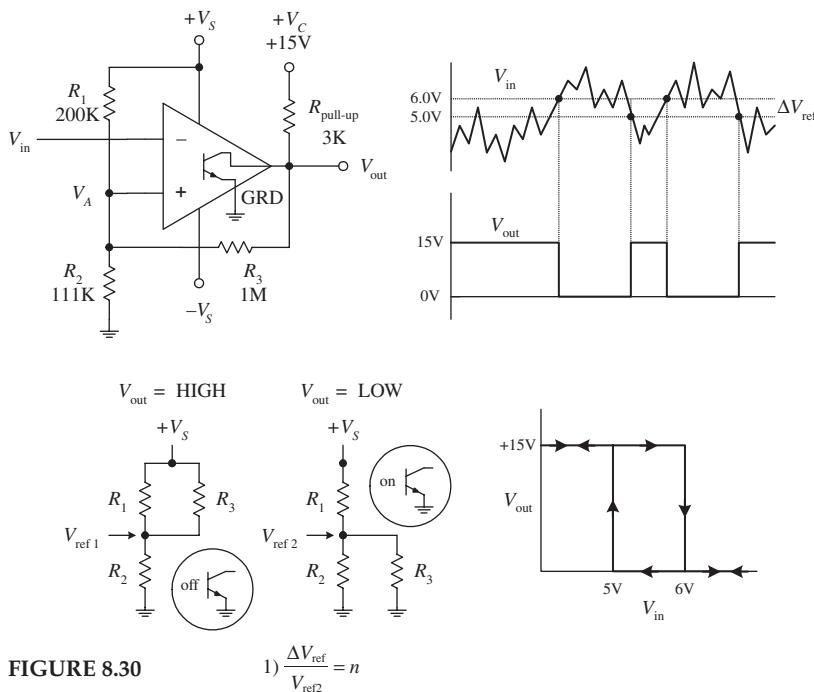

FIGURE 8.30
In the inverting comparator circuit shown in Fig. 8.30, positive feedback through  $R_3$  provides the comparator with two threshold voltages or triggering points. The two threshold voltages result from the fact that the reference voltage applied to the noninverting terminal is different when  $V_{out}$  is high (+15 V) and when  $V_{out}$  is low (0 V)—a result of feedback current. Let's call the reference voltage when the output is high  $V_{ref1}$ , and call the reference voltage when  $V_{out}$  is low  $V_{ref2}$ . Now let's assume that the output is high (transistor is off) and  $V_{in} > V_{ref1}$ . In order for the output to switch high,  $V_{in}$  must be greater than  $V_{ref1}$ . However, what is  $V_{ref1}$ ? It is simply the reference voltage that pops up at the noninverting terminal when the output transistor is off and the output is high (+15 V).